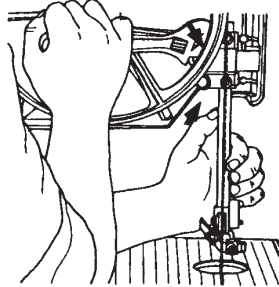

Fig. A-7
4. Use a 1/2" wrench to loosen the two mounting bolts (64) which hold the guide post bracket (70) to the Bandsaw frame, as seen in Fig. A-7.